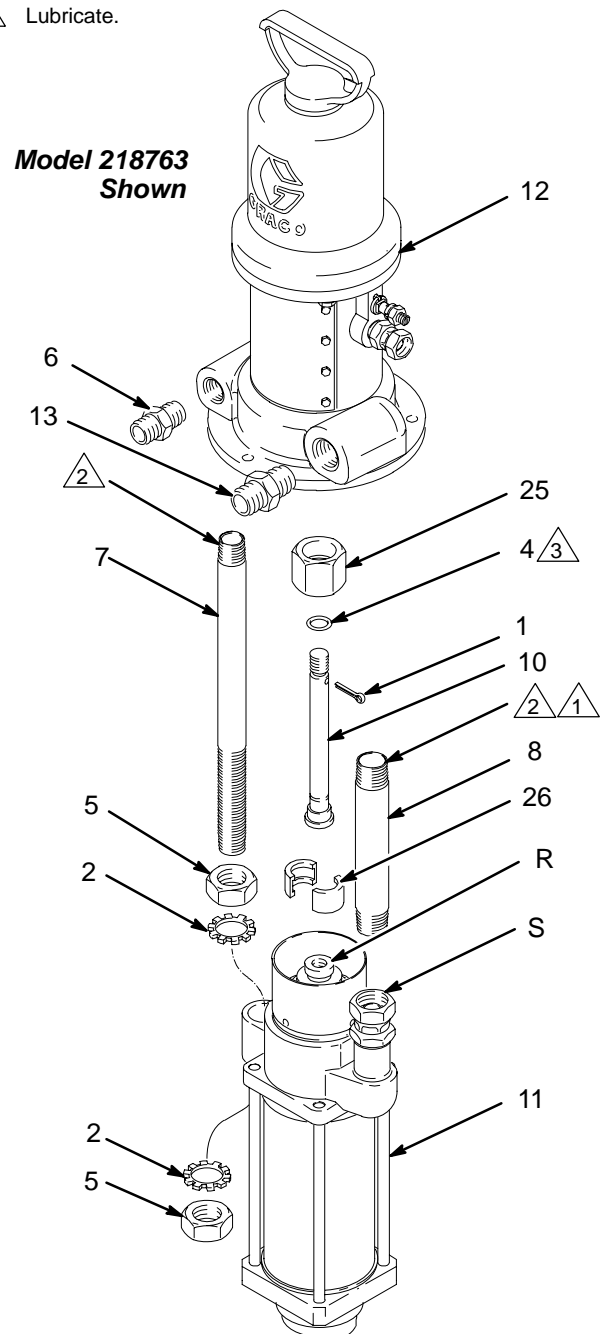

Fig. 4
3. Unscrew the coupling nut (25) from the displacement rod (R). Remove the coupling collars (26). See Fig. 4.
4. Unscrew the lower locknut (5) and lockwasher (2) from the return mounting tube (7).
5. Unscrew the swivel union (S) from the supply mounting tube (8).
1. Position the displacement pump on the mounting tubes (7, 8). Thread the upper locknut (5) onto the return mounting tube (7) a couple of turns. Tighten the swivel union (S) securely onto the supply mounting tube (8). See Fig. 4.
2. Butt the connecting rod (10) and displacement rod (R) together; if necessary, adjust the locknuts (5) on the return mounting tube (7) to align the rods.
3. Position the coupling collars (26) so they engage with the connecting rod (10) and displacement rod (R). Lower the coupling nut (25) over the coupling collars and screw it securely onto the displacement rod.
4. Tighten the locknuts (5) securely.
6. Turn on the air to the motor and run the pump slowly. Adjust the locknuts (5) on the return mounting tube (7) as necessary until the pump operates smoothly at minimum air pressure to the motor. Tighten the locknuts securely.